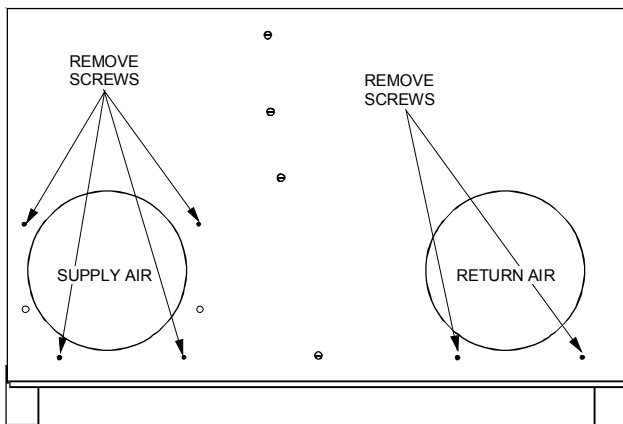

Figure 8 -Supply Air Side Screws Removal
1. Remove and set aside the four supply air side screws (Figure 8).